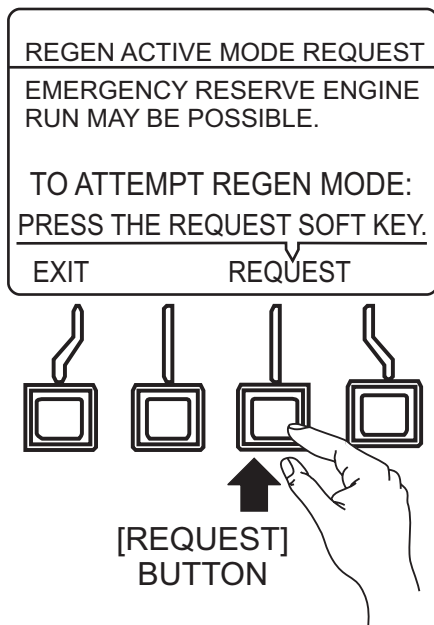

Figure 85. Regen Request
3. Press and hold the “REQUEST” button (Figure 85) until the “REGEN ACTIVE” message is displayed on the monitor and then release button.